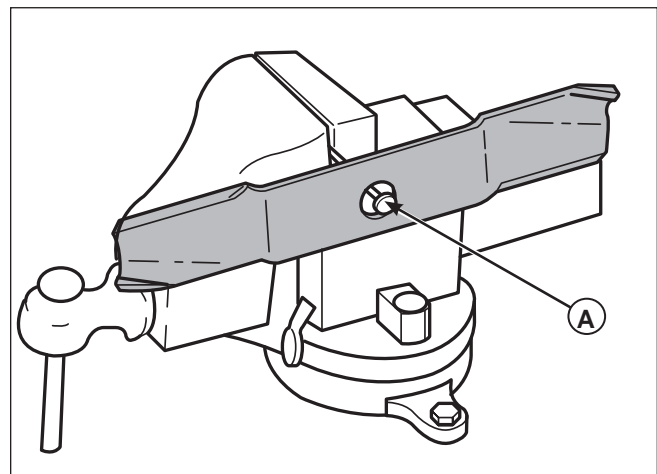

Figure 16. Balancing the Mower Blade
2. See Figure 16. Put the mower blade on a nail in a vise and turn the mower blade to the horizontal position.